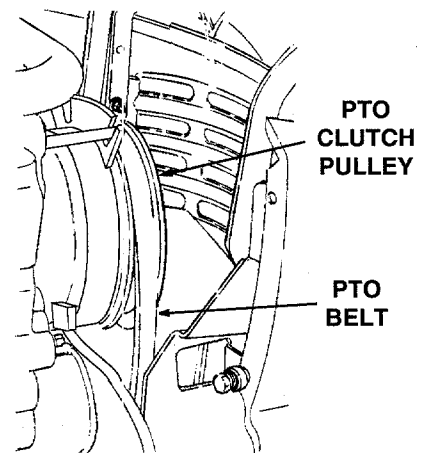

Figure 39
4. Open the tractor hood and remove the forward end of the PTO belt from the PTO clutch pulley (Refer to Figure 39).